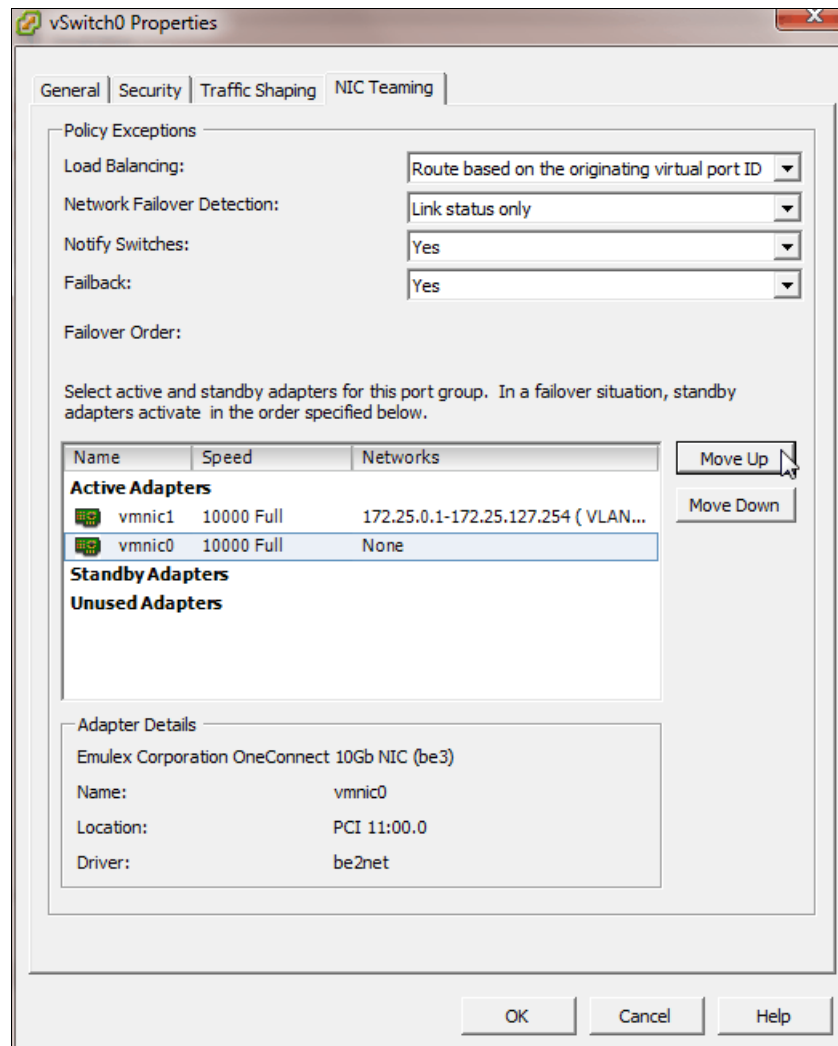

Figure 5-16 Moving one of the vmnic's to active to become an active adapter
4. Move the NIC currently in the standby position up to the Active Adapters category and then click **OK**, as shown in Figure 5-16.